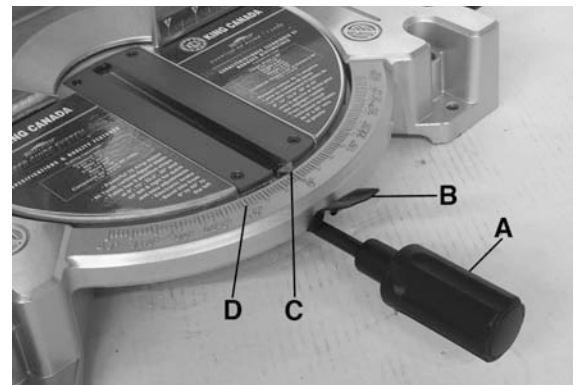

FIGURE 9
Your compound miter saw will cut any miter angle from a straight 90 degree cut-off to 45 degrees right and left. Simply loosen table lock knob (A) Fig.9, press the lock lever (B) down and turn the table using the table lock knob until the pointer arrow (C) aligns with the desired setting on the miter scale (D). Then retighten table lock knob (A). **WARNING: LOCK KNOB (A) MUST BE TIGHTENED FOR ALL CUTTING OPERATIONS.**